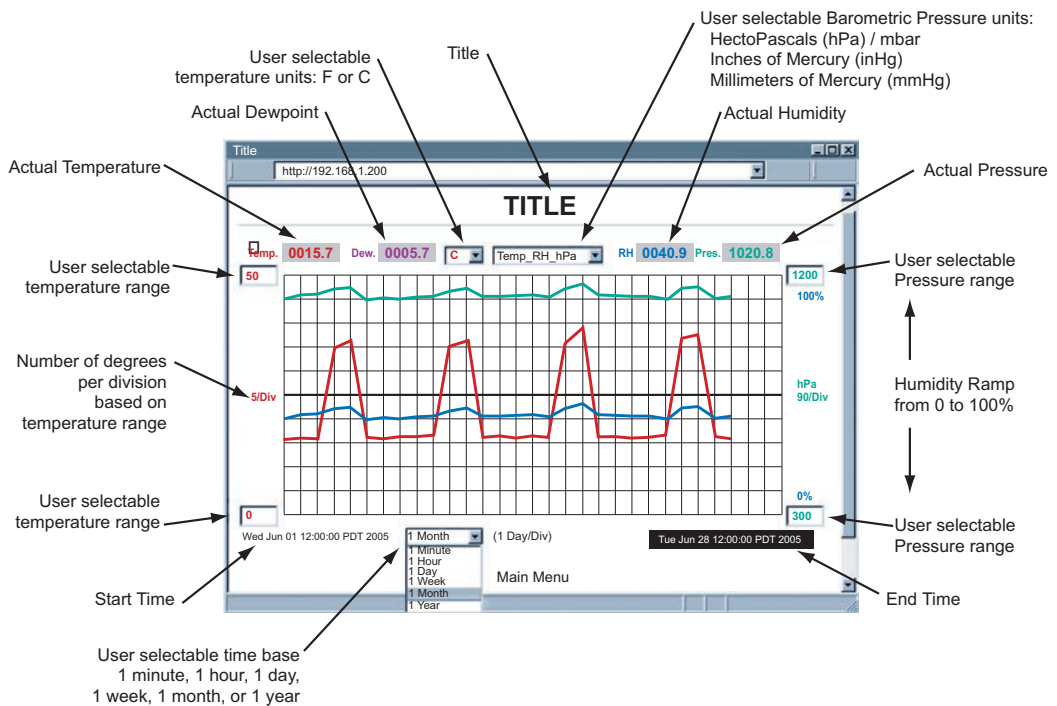

Figure 4.8 Chart
- Click on **Chart**, the following page (**Figure 4.8**) should appear. The Java™ Applet graph displays Temperature, Pressure, and Humidity values which can be charted across the full span (-40 to 85°C and 0 to 100% RH) or within any narrow range (such as 20 to 30°C). The time-base can display one minute, one hour, one day, one week, one month or one year.